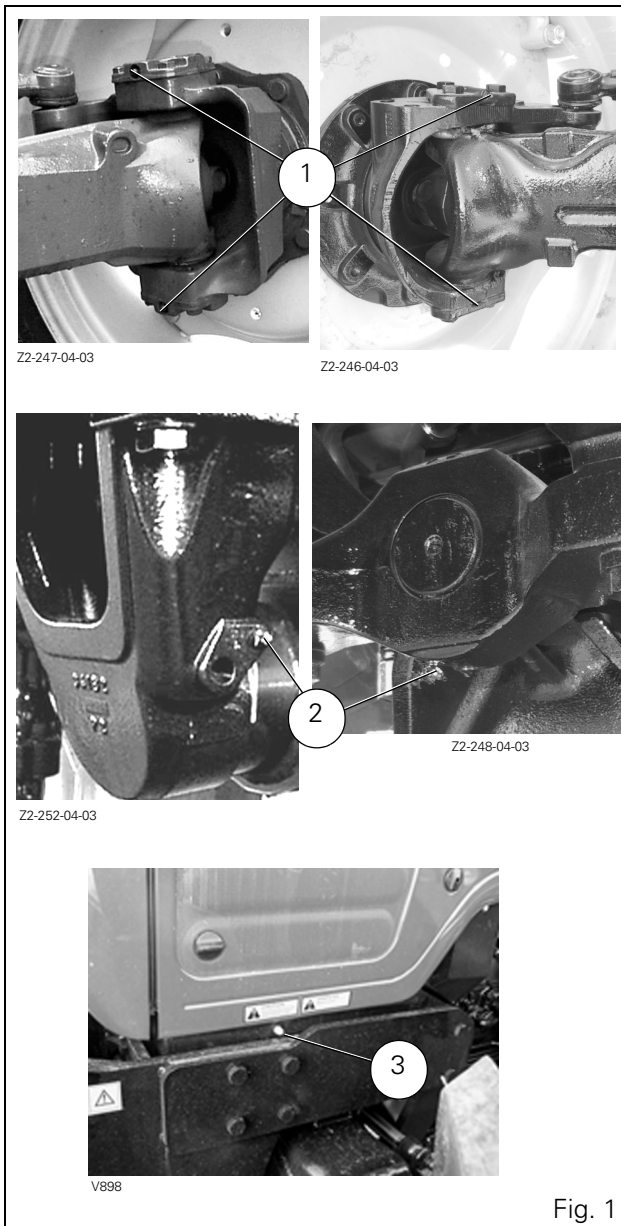

Fig. 1
1. Front axle pivots (4WD) (6 grease nipples) (Fig. 1)